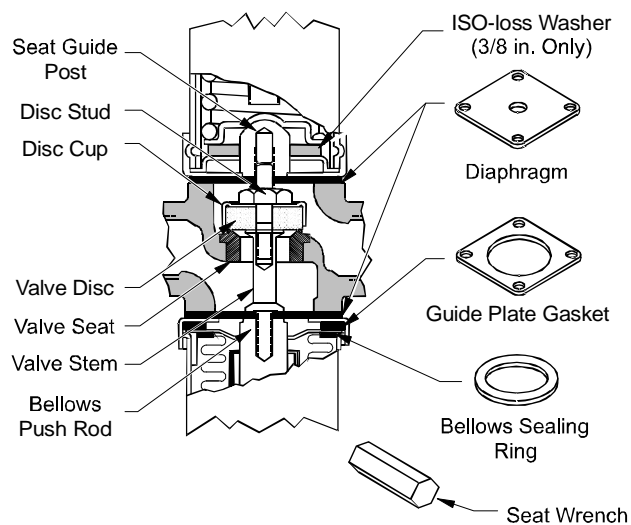

Figure 5: V46 and V47 3/8 in. through 1-1/2 in. Valves
4. Remove the seat guide post (Figure 5).
5. Remove the rubber diaphragms (Figure 5).
6. Turn the disc stud counterclockwise to remove the valve stem assembly (Figure 5).
8. Using the seat wrench supplied with the kit, remove the old valve seat and replace it with the new valve seat (Figure 5).
9. Assemble the new valve stem, disc, disc cup, and disc stud, and place into the valve body (Figure 5).
11. If servicing a V47 or V46 valve other than low flow, place new diaphragms on the sensing element end of the valve stem assembly. Use two diaphragms on 3/8 in., 1/2 in., and 3/4 in. valves and three diaphragms on 1 in. and larger valves. Screw the diaphragm into place with the bellows push rod. Attach the sensing element to the valve body. See Figure 5.